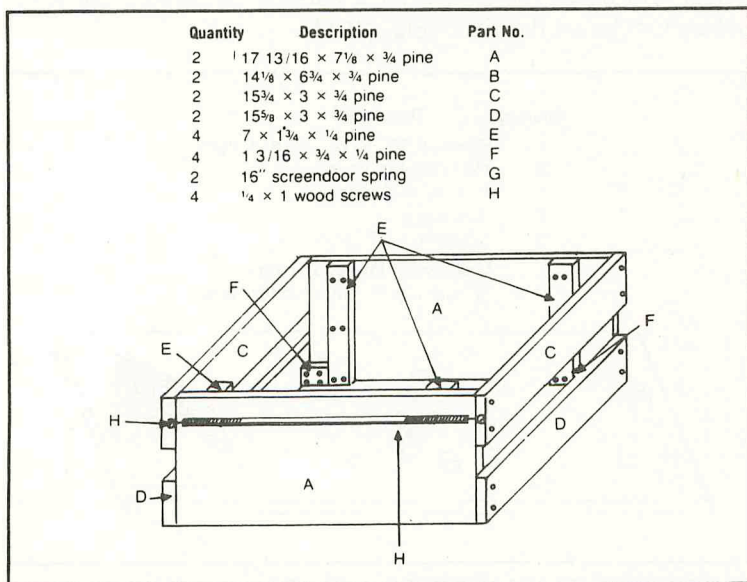

Fig. 13-10. Ten frame nailing device bill of materials. (Design and directions by Ron Neese, Apiary Director, Orange County Farm Bureau, Irvine, California.)
To make your own 10-frame nailing device like the one shown in Fig. 13-10, you will need the following materials:
Glue and nail the four small pine pieces (Fig. 13-10F) into the lower left and right corners of the two pieces (Fig. 13-10A). Glue and nail the four small pine pieces (Fig. 13-10E) against those pieces (F) and running vertically to the top of the pieces (A). See Fig. 13-10 for clarification of locations.